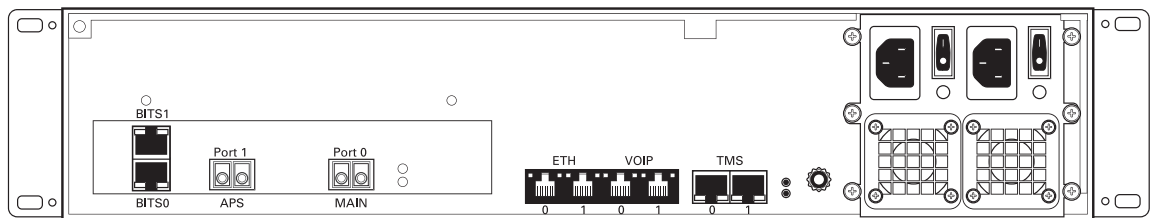

Figure 2.26 Optical Interface to the PSTN
A TMP6400-STM-1, with one main and one backup OC3 or STM1 port enables connection to OC3/STM1 lines. See figure 2.26 on page 35. Refer to table 2.2 on page 35 for a listing of optical interfaces. The default SFP module for OC3/STM1 connection is SMF, intermediate reach, (SFP-OC3-IR1) 1310 nm with LC type connectors.
1. Connect a fiber optic cable between the Port 0 (Main) port and OC3/STM1 line, as shown in figure 2.26 on page 35.